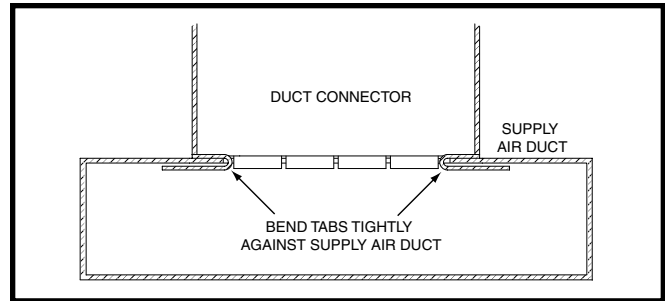

Figure 9. Duct Connector Tabs
- Bend the connector tabs on the bottom of the duct connector upwards and as tight as possible against the supply air duct. See Figure 9.